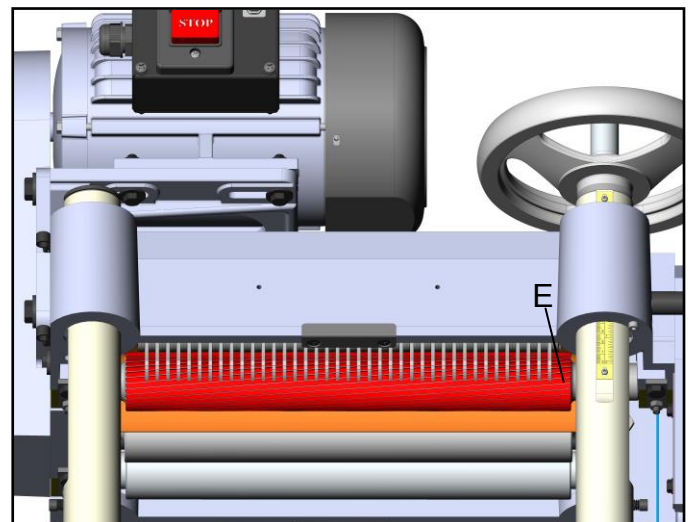

Fig.11
Anti-kickback fingers (E) are provided on your planer to prevent kickback. These fingers operate by gravity and it is necessary to inspect them occasionally to make sure they are free of gum and pitch so that they move independently and operate correctly, Fig.11